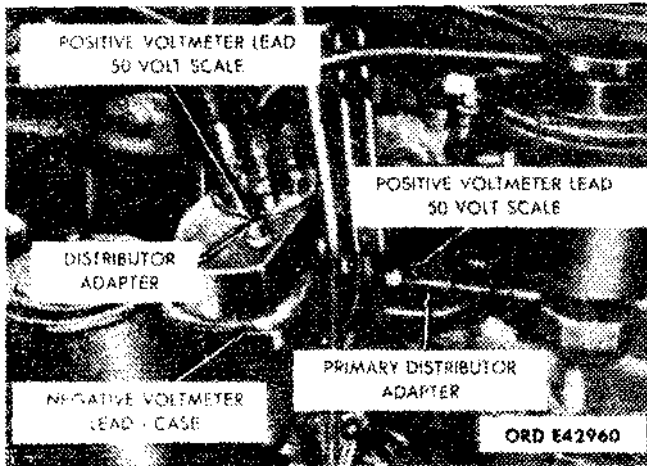

Figure 2-35. Ignition circuit test
(1) Disconnect the primary wire at the distributor and insert the primary ignition adapter. Unscrew the plug from the top of the distributor and insert the distributor adapter (fig. 2-35).
(2) Place the voltage selector in the 50-volt position and ground the negative (–) lead.
(3) Connect the positive (+) lead to the primary adapter; turn on the ignition switch. The meter should read battery voltage. (If voltage is present, skip the ignition switch checks, since this indicates that the ignition switch is functioning.)
#### c. Distributor Tests, Cap On (Fig. 2-35).
(1) With the voltage selector on the 50-volt scale, ground the meter to the side of distributor.
(2) Connect the positive (+) lead to the distributor adapter (fig. 2-35).
(3) Turn on ignition switch.
(4) Observe the voltmeter. The voltmeter should read low voltage or battery voltage, depending on the distributor point position.
(5) If the points are open the voltmeter should read battery voltage.
(6) If the points are closed, the voltmeter should be on zero or have a maximum voltage of three-tenths of a volt.
(7) If the voltmeter reads battery voltage, but will not drop when the points close, the points are defective. Remove and replace the points or the distributor.
(8) If the voltmeter will not read battery voltage when the points are open, distributor components are defective. Remove and replace the distributor or check it in accordance with the following procedure.